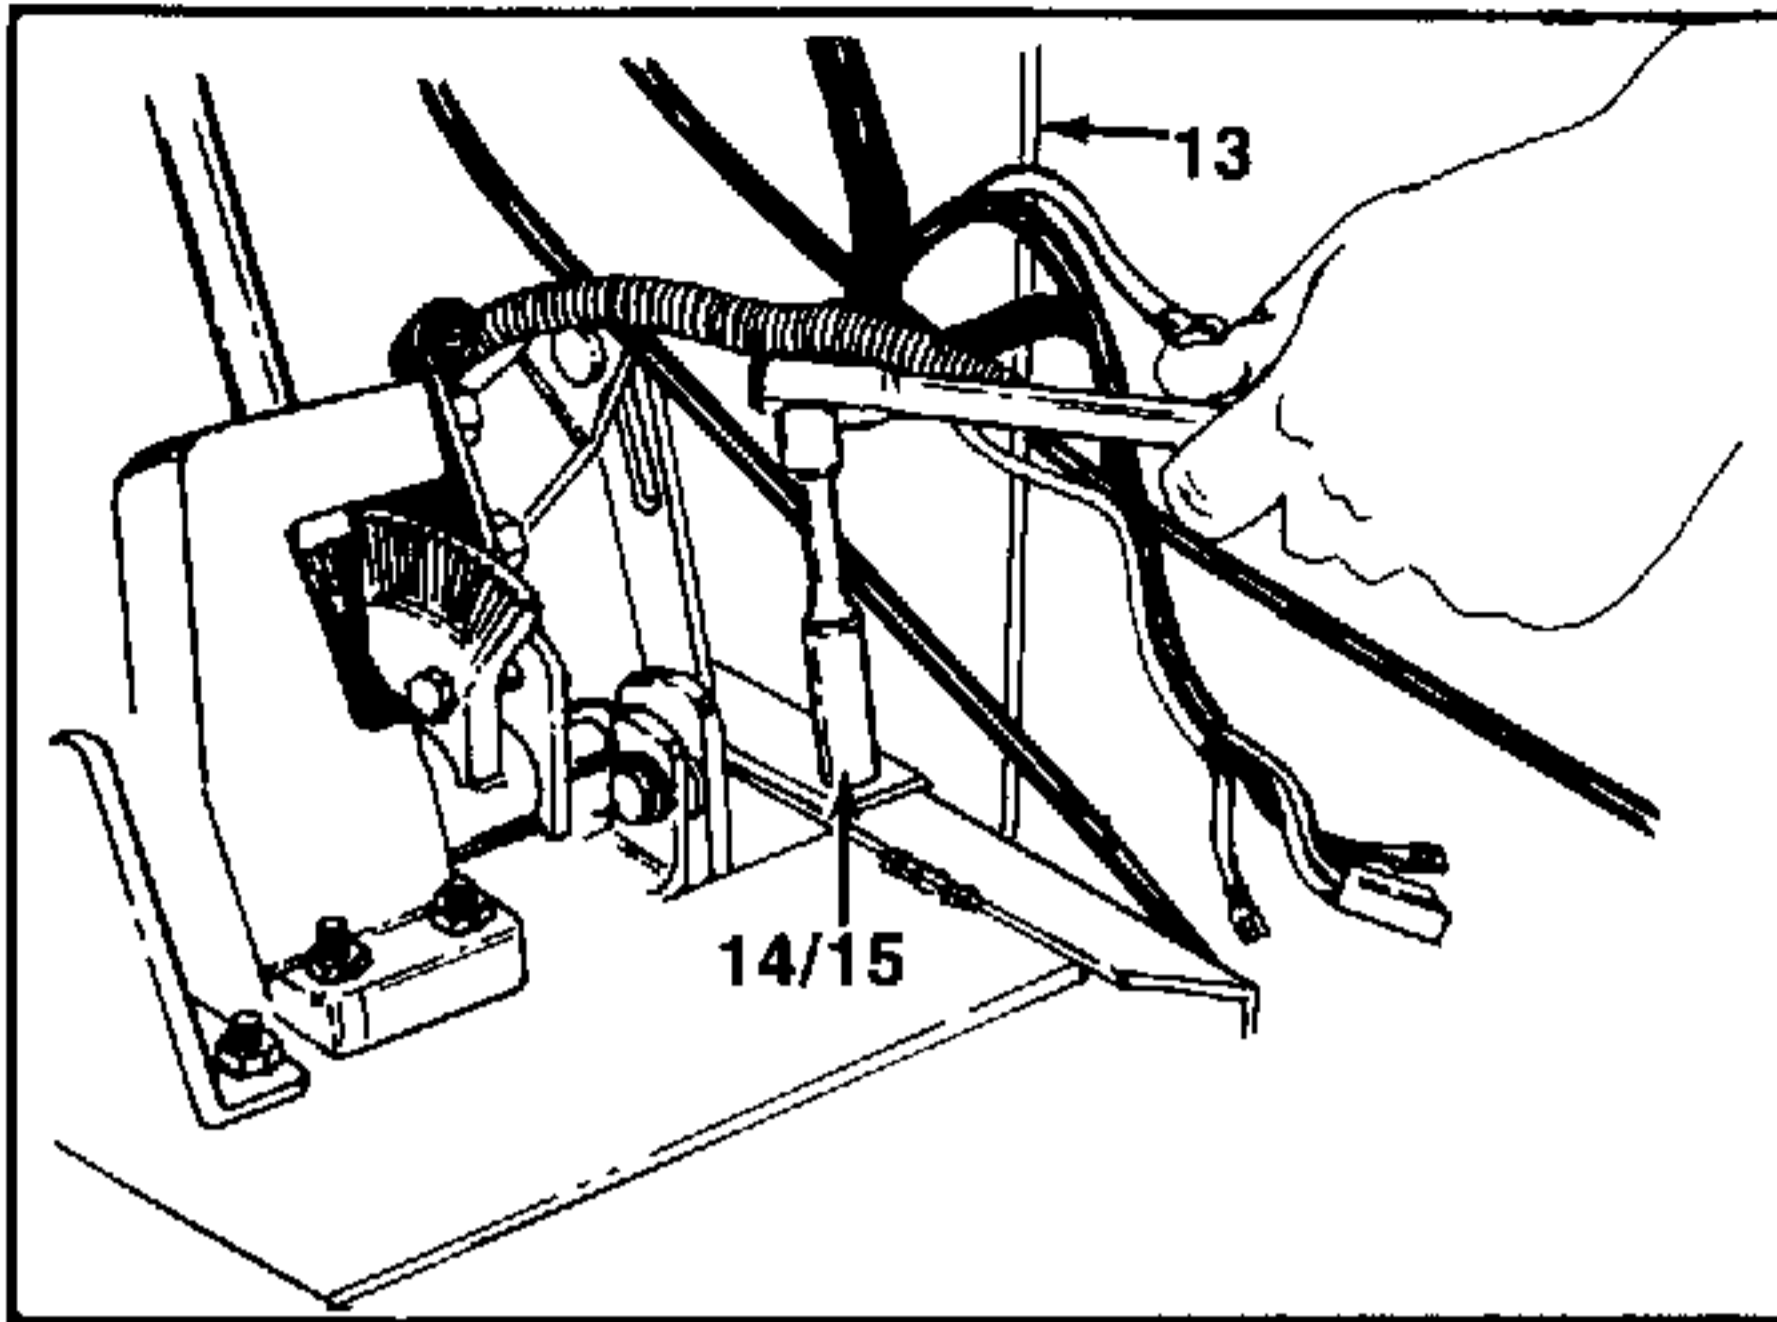

FIGURE 7.
9. Remove the four hex nuts (Ref. 14) and lock washers (Ref. 15) that hold the pedestal to the frame. See figure 7.